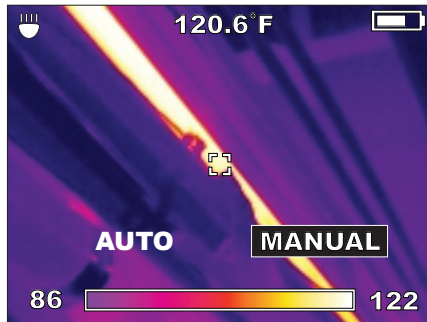
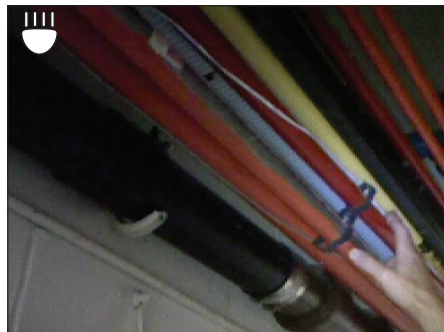

Figure 8. Live Thermal Image
Figure 10. Live Visual Camera View
5. Observe the live thermal image on the display as shown in Figure 8. Rotate the focus ring on the thermal sensor lens for maximum sharpness. Make small focus adjustments and wait for the image to settle before making another adjustment. Focusing has a different feel than it does with visual image cameras.
In the live thermal image in Figure 8, the 411.3 °F reading at the top of the display is the temperature inside the center target. The bottom of the display shows the color palette over the temperature span (in this case, 370 °F to 446 °F). Span is adjusted automatically in auto-range mode (default setting). This manual explains how to use manual range settings under “Optimizing Thermal Images.”
Figure 10 shows a visual image as it would appear on the display. This is the companion to the thermal image in Figure 8. There is no temperature data associated with a visual image. Visual images are to help you identify objects in thermal images.